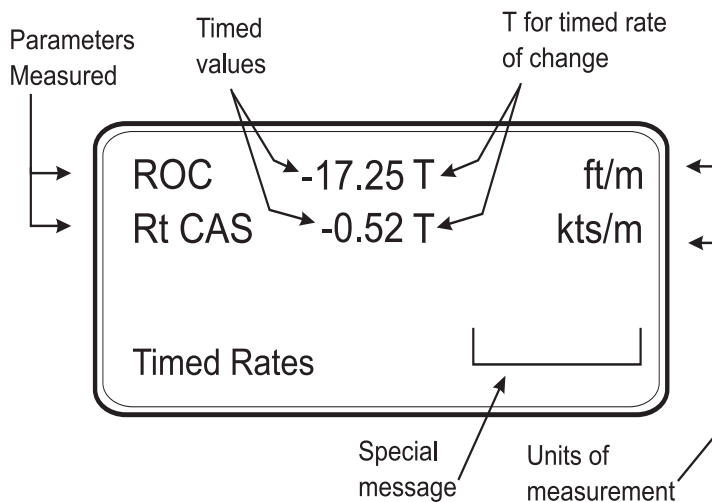
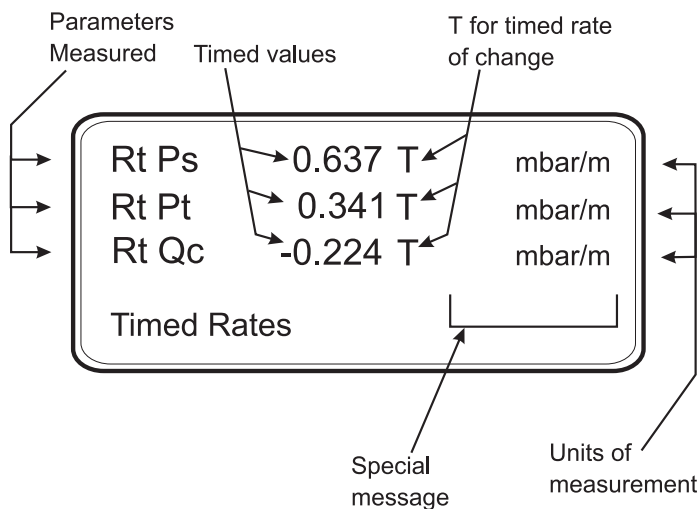

FIGURE 3-7 RATE TIMER DISPLAY AERONAUTICAL UNITS
FIGURE 3-8 RATE TIMER DISPLAY PRESSURE UNITS
3.10 Rate Timer Displays (Fig 3.7 and Fig 3.8)
3.11 Pt Only Display (Fig 3.8)